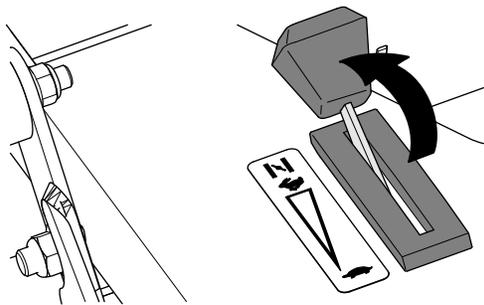

Figure 12
- If the engine is cold, move the throttle control all the way forward to the CHOKE position (Figure 12).